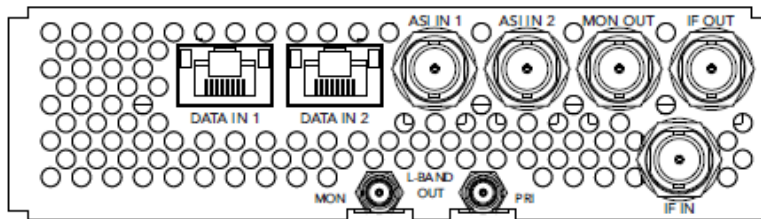

Figure 7: SMD 920 L-Band output - shown with SMD 912(A)
The SMD 920 in combination with the SMD 912(A) modulator option as 7 I/Os (Figure 7).